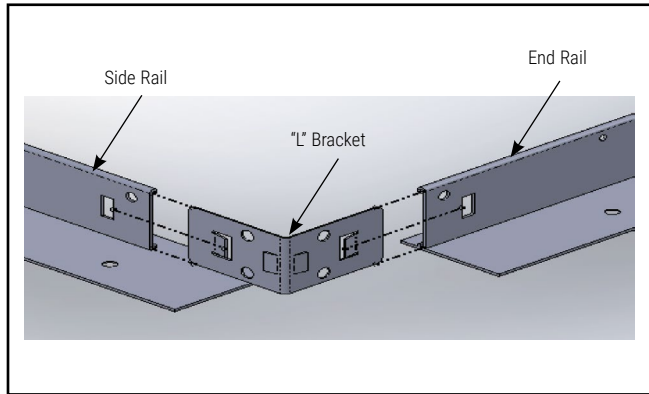

Figure 1.
1. Assemble dry wall frame use "L" brackets to attach end rails to side rails. (Figure 1)